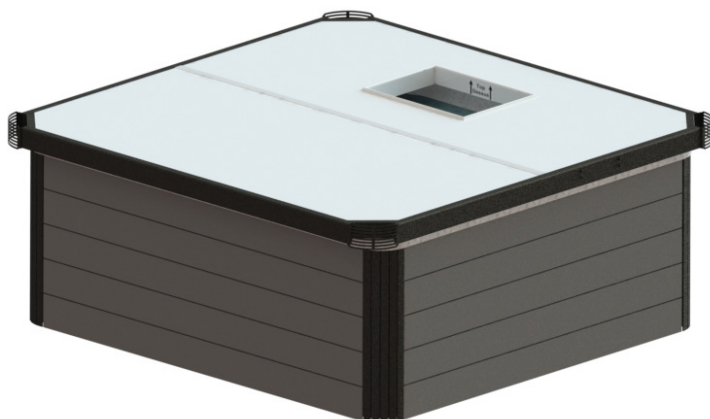

Figure 56
15) Repeat steps 10 to 14 for the rear side of the cover. (Figure 56)